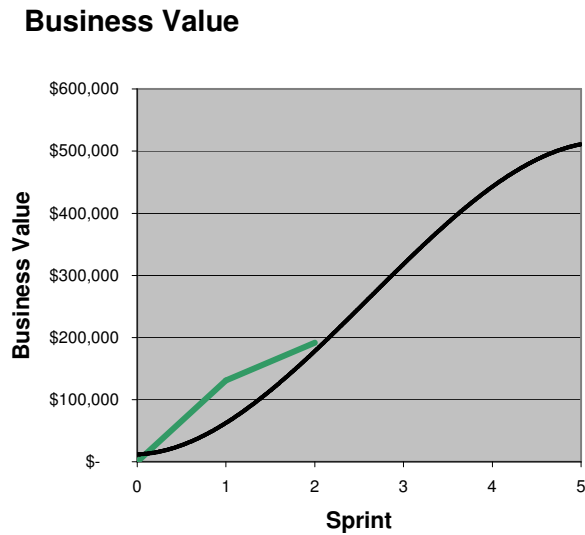

Figure 4: Business Value Burnup
- Earned Business Value Graph: This presents the Business Value earned compared to the Planned Business Value. Variance can be quickly estimated from the graph to assess the correct prioritization and progress of the project (Figure 4: Business Value Burnup).